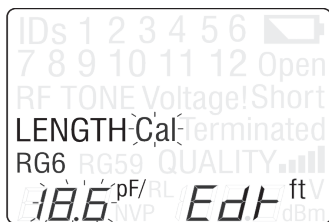

Figure 13. Adjusting Length Constant Value
3. Hold down the LENGTH button for two seconds to enter Edit Mode in order to edit the length constant value. The LCD display screen shows the following icons (see Figure 13):